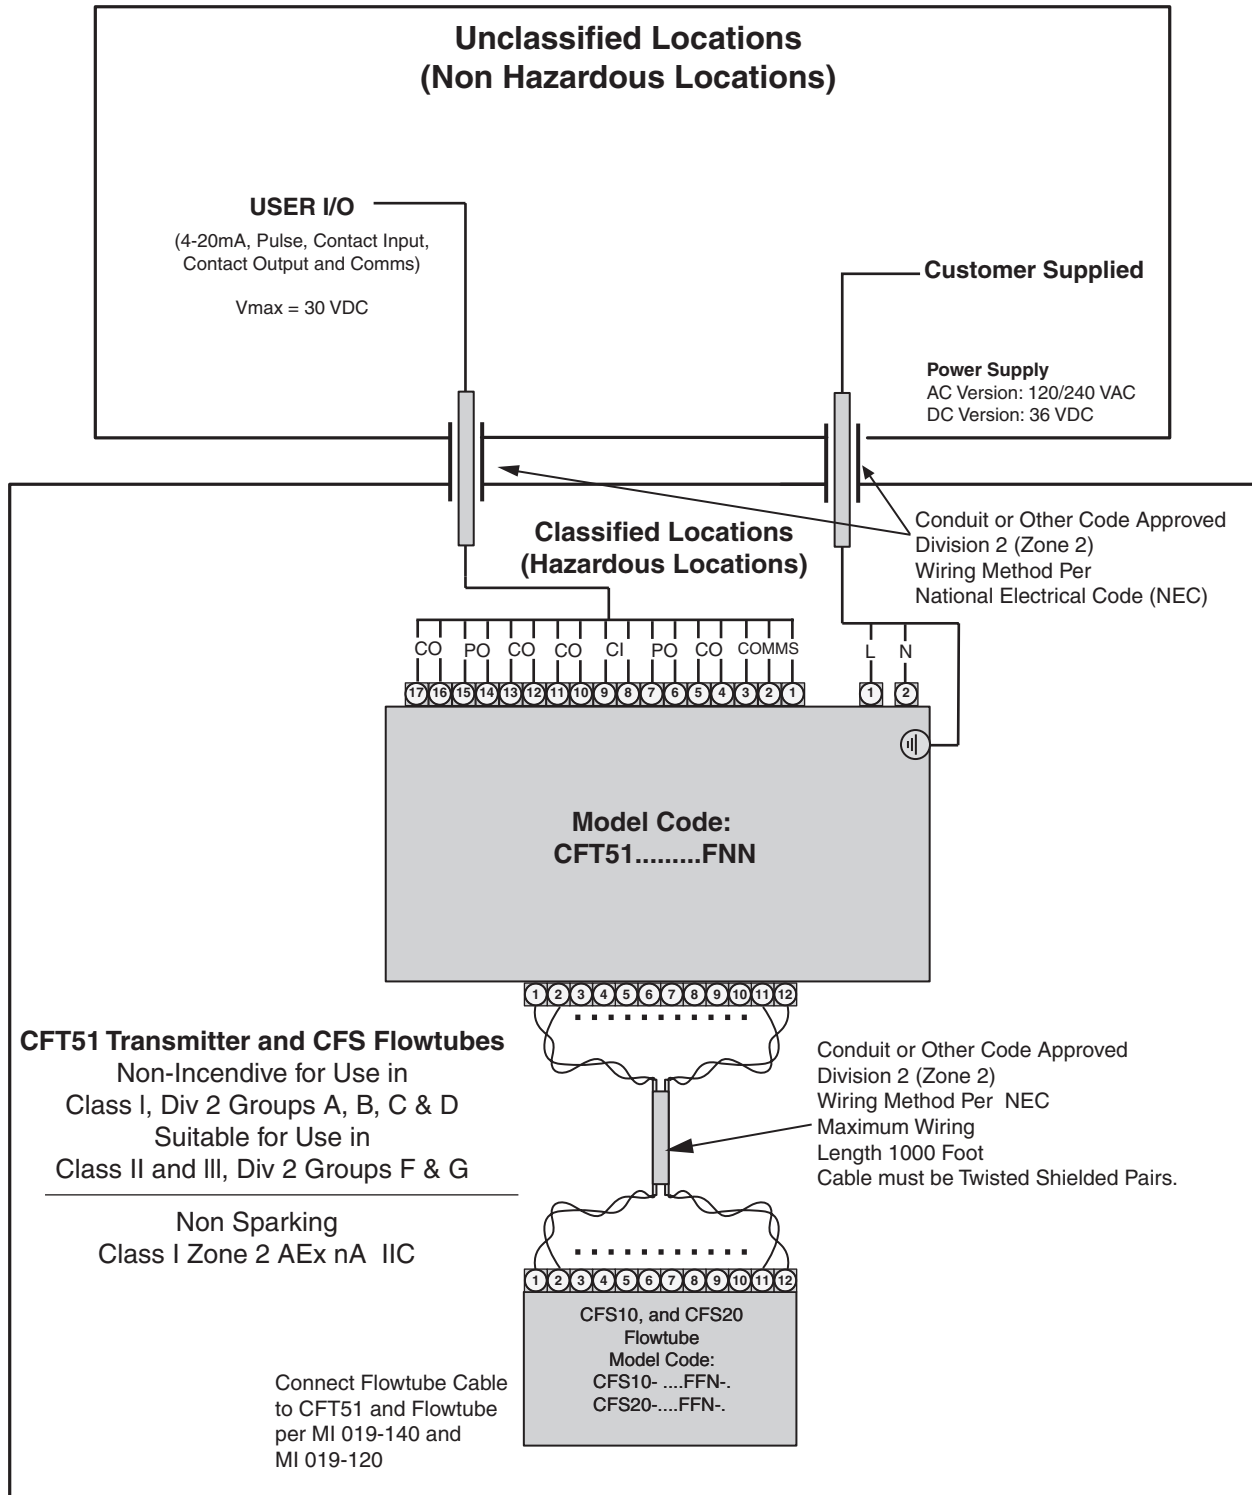

Figure 1. Flowtube and Transmitter Located in Class I, Division 2 (Non-Incendive) Area
1. Figure 1 must not be revised without prior FM approval.